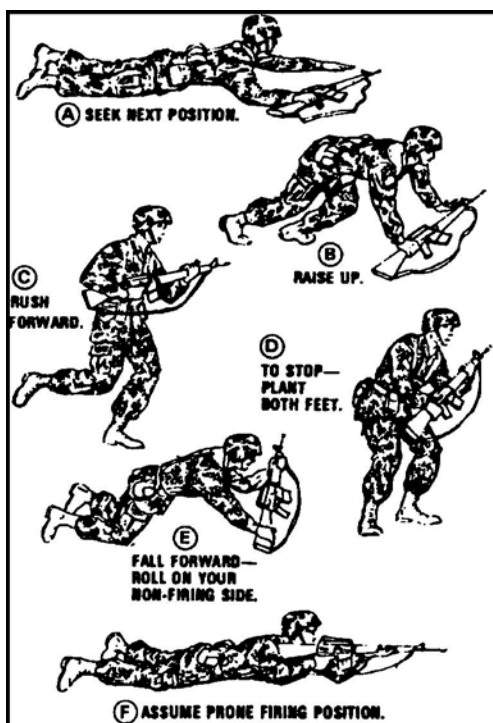

Figure 4. Rush.
- (1) Pushing both arms forward while pulling your right leg forward.
- (2) Pulling with both arms while pushing with your right leg.
- (3) Continuing this push-pull movement until you reach your next position, changing your pushing leg frequently to avoid fatigue.
6. Use the rush to move from one covered position to another when enemy fire allows brief exposure (Figure 4).